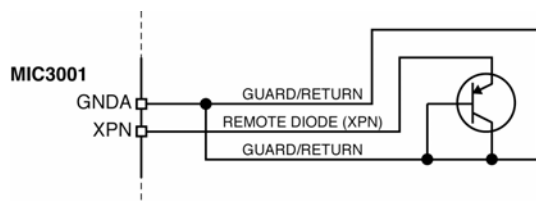

Figure 35. Guard Traces and Kelvin Return for Remote Thermal Diode
3. When using the MIC3001 to sense the temperature of a processor or other device which has an integral thermal diode, connect the emitter and base of the remote sensor to the MIC3001 using the guard traces and Kelvin return shown in Figure 35. The collector of the remote diode is typically inaccessible to the user on these devices.